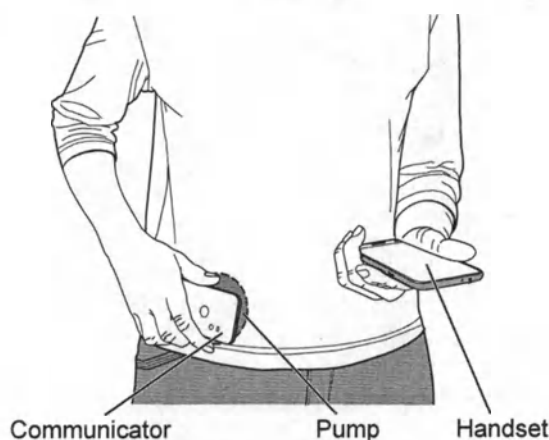

Figure 1. Position of the handset and communicator next to the patient's pump.
- Demonstrate how to hold the communicator and handset (Figure 1 on page 10). Either side of the communicator can be placed against the pump.
1. Place either side of the communicator directly over the pump (Figure 1).